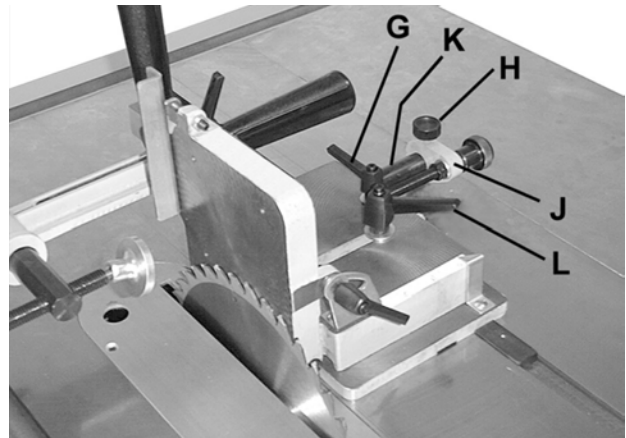
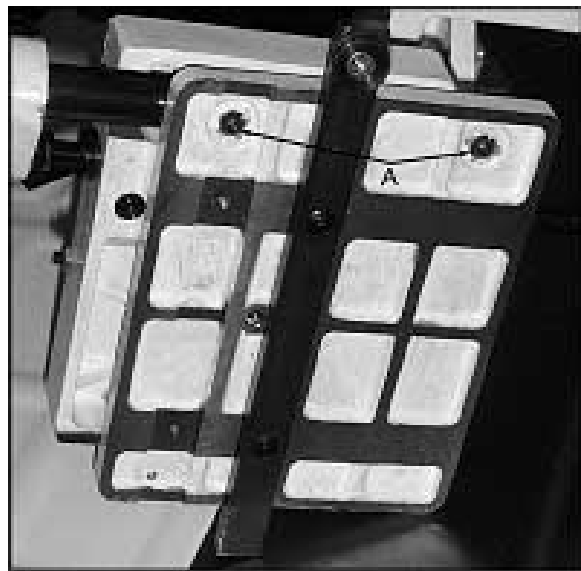

Figure 4
Figure 5
6. Loosen locking handle (G, Fig. 4). Loosen thumbscrew (H) and move bracket (J) to the back edge of the guide rod (K). The guide bushing should move out with the bracket. If the guide bushing does not move lubricate with a light oil. Tighten locking handle (G), and thumb screw (H).
7. To bring the fence into parallel with the saw blade, loosen both locking handles (G, L). See Figure 4. Reposition the jig so that the fence lies flat against the saw blade and tighten both locking handles.
8. The miter bar slots in the base are milled to be parallel to the fence. If an adjustment is necessary, loosen the two hex socket head screws (A) holding the guide rod to the base, as shown in Figure 5. Place the jig back into the miter slot. Loosen locking handle (L Figure 4) and make the needed adjustment. When adjustment is finished, tighten the handle and remove the jig, and fully tighten the screws under the guide rod. Place the jig back on the saw with the miter bar in the miter slot.
9. Loosen both locking handles (G & L, Fig. 4), and back off jig so that the fence is approximately 1/8" away from the saw blade and tighten both locking handles (G & L).